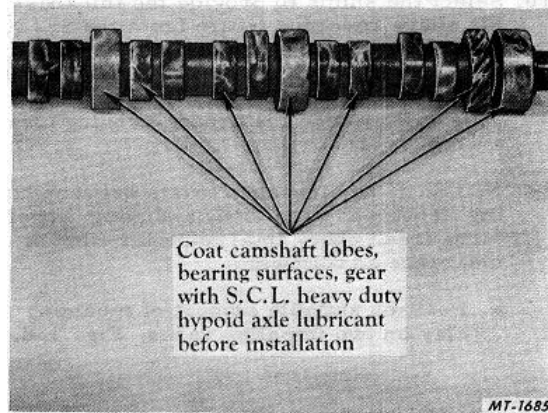

Fig. 141 Prelubricating Camshaft Before Assembly
2. Coat the camshaft lobes, bearing surfaces, gears and bores with heavy-duty hypoid axle lubricant, Fig. 141.